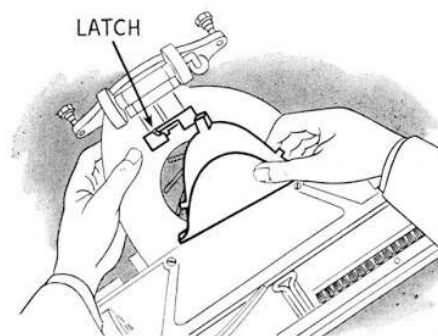

FIG. 89—Pulley cover type of cleaner bottom plate
2. Figure 89 illustrates a type of cleaner bottom plate held in place with a slide latch. This kind is often referred to as a pulley cover.